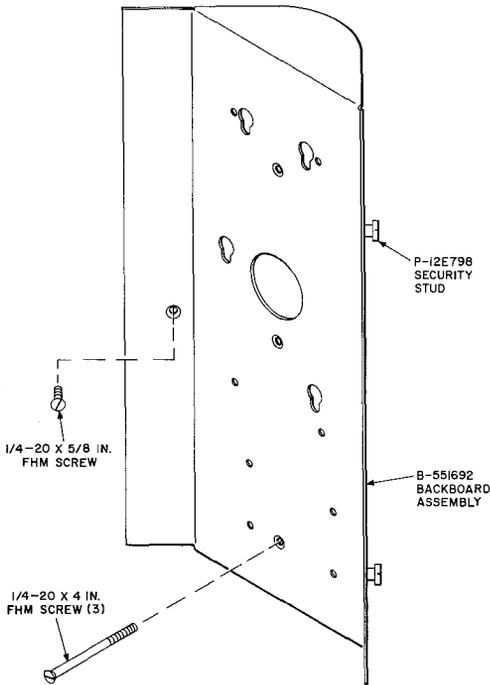

Fig. 2—KS-19206, List 6 Coin Telephone Set Installation Kit or Backboard Portion of List 5 Kit
- (1) Install the backboard portion of the List 5 kit in accordance with Fig. 2.
3.16 List 6 Kit: Install KS-19206, List 6 kit in accordance with Fig. 2.